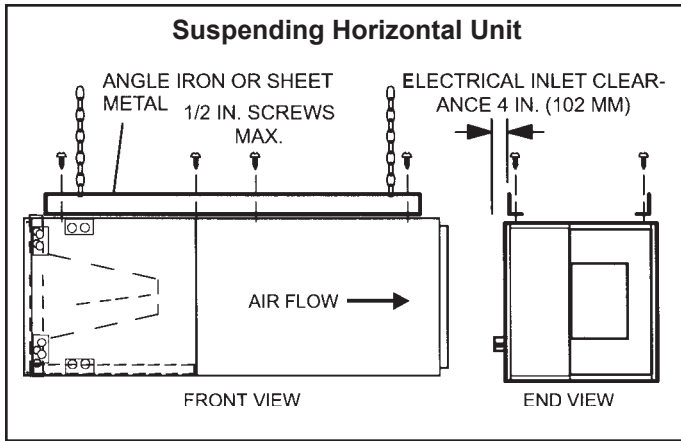

Figure 2
5. If the unit is suspended, the entire length of the cabinet must be supported. If you use a chain or strap, use a piece of angle iron or sheet metal attached to the unit (either above or below) to support the length of the cabinet. Use securing screws no longer than 1/2 inch to avoid damaging the coil or filter. See Figure 2. Use sheet metal screws to connect the return and supply air plenums as required